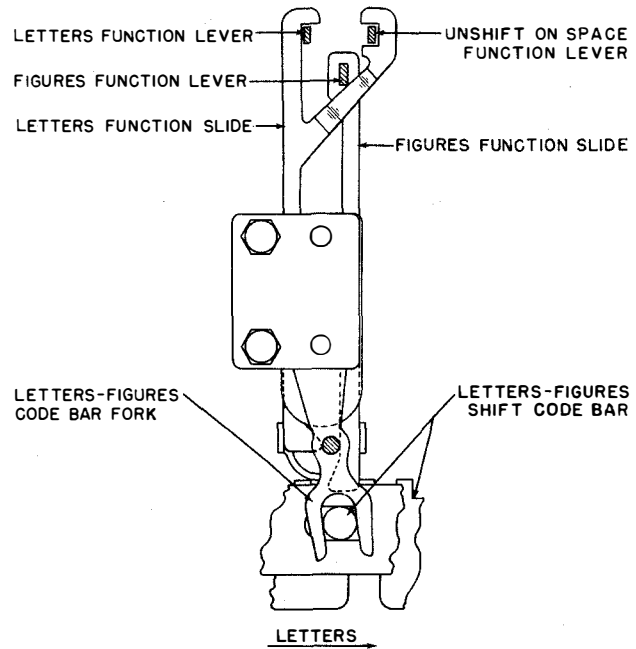
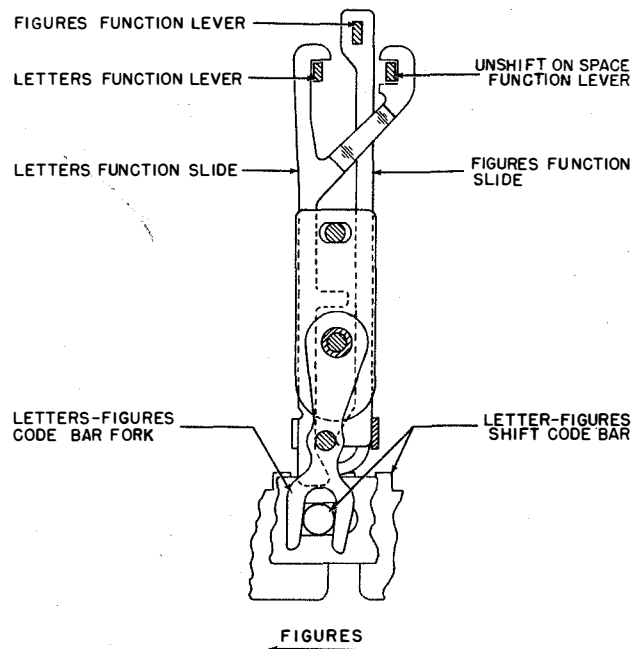
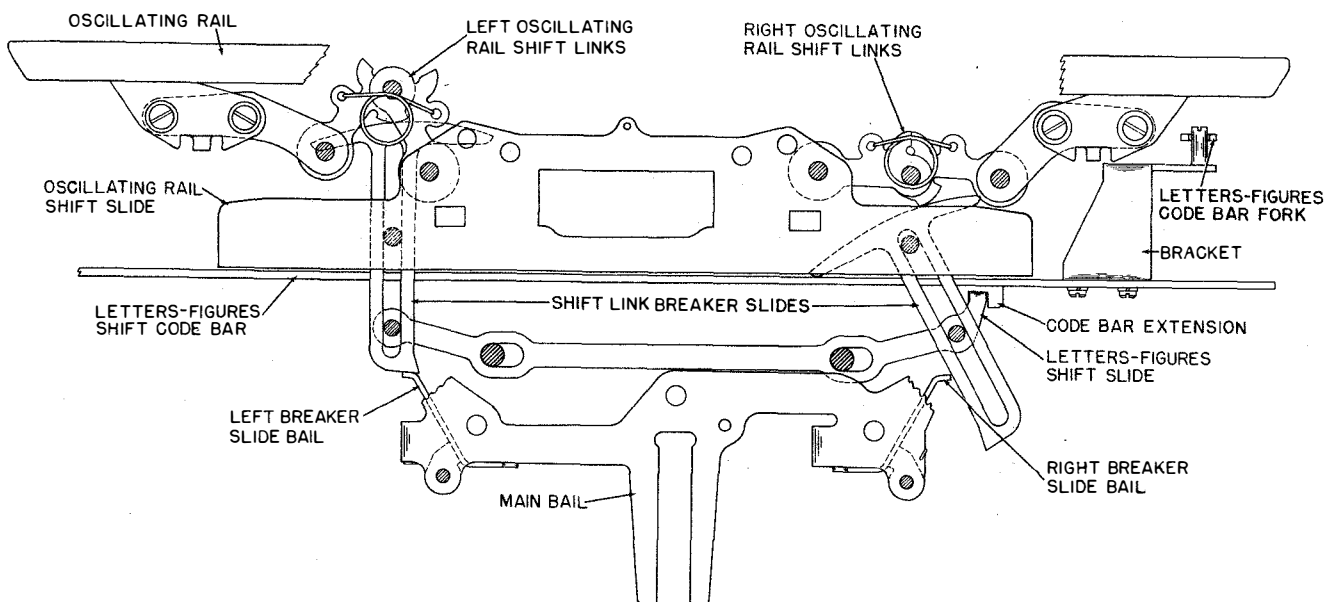

Figure 2-63. Letters-Figures Function Slides, Letters Position
Figure 2-64. Letters-Figures Function Slides, Figures Position
Figure 2-65. Letters-Figures Shift Mechanism, Letters Position
(2) LETTERS AND FIGURES SHIFT FUNCTION.—The letters and figures function bars, pawls and levers which are located near the right end of the function box operate on letters and figures codes respectively. The upper ends of the function levers engage the letters and figures function slides (figures 2-63 and 2-64). The front ends of these function slides have camming surfaces which, when a slide is shifted to the rear by its function lever, move the letters-figures code bar fork to the right (letters position—figure 2-63) or to the left (figures position—figure 2-64). The letters-figures code bar fork engages a pin on the bracket which is fastened to the letters-figures shift code bar, and positions the code bar toward the right for letters function or toward the left for figures function (figure 2-65). A slotted extension of the code bar engages a tongue from the right end of the letters-figures shift slide and causes the shift slide to follow the movements of the code bar. Pins at the end of the shift slide serve as lower guides for the right and left shift link breaker slides. Pins which project from the front plate serve as upper guides and pivot points. Mounted on the ends of the main bail are the left and right breaker slide bails. When letters function code is received, the shift slide is shifted to the right as shown. This places the left shift link breaker slide in a vertical position with its lower end over the left breaker slide bail. The right breaker slide is positioned such that its lower end is to the right of the right breaker slide bail. As the main bail moves upward, the right breaker slide bail clears the right breaker slide while the left breaker slide bail engages the left breaker slide and moves it upward. This action causes the left oscillating rail shift links to break and shift the oscillating rail to the right for the printing of LTRS characters. In a similar manner, when figures function code is received, the right oscillating rail shift links are broken and the rail is shifted to the left for the printing of FIGS characters.
(3) SPACING FUNCTION.